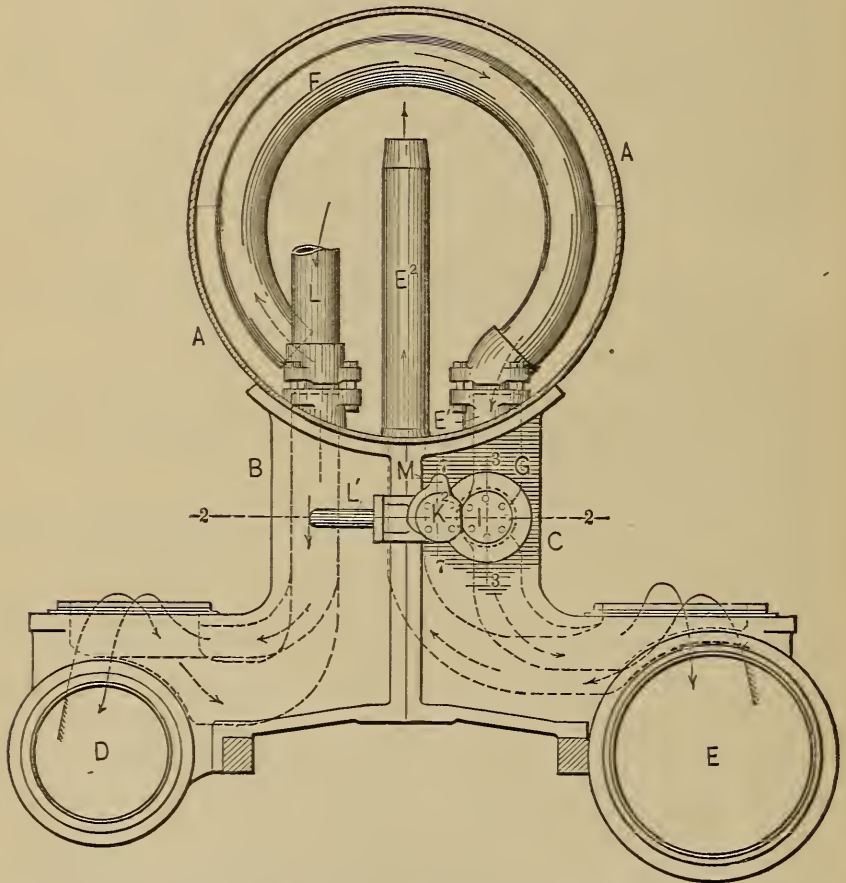
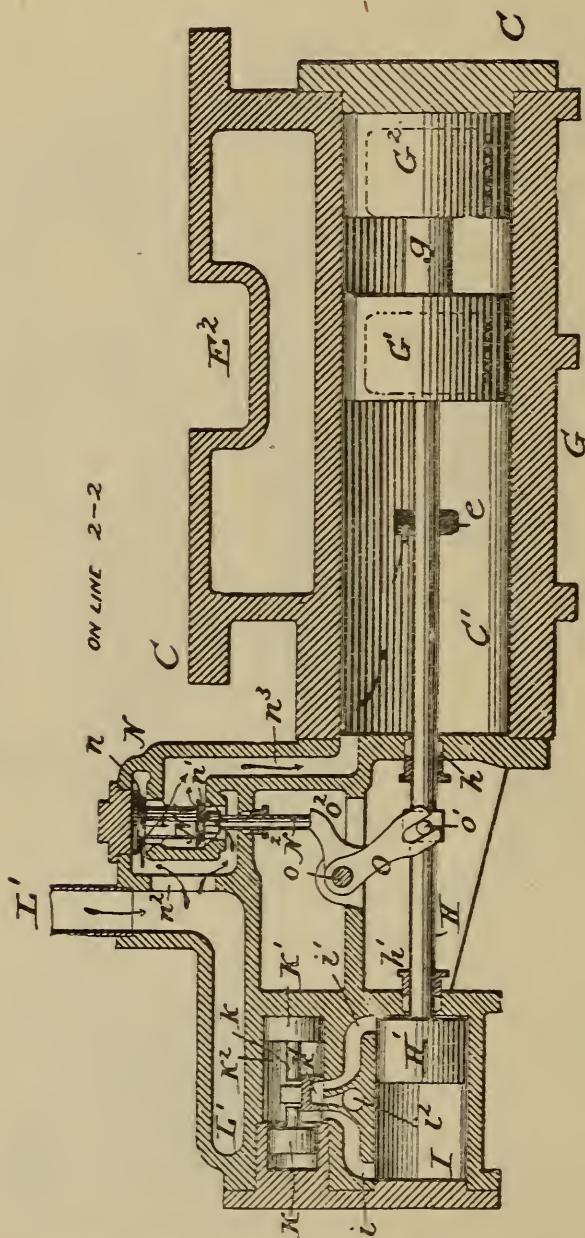

Fig. 161. Front Elevation (partly in Vertical Cross Section) Schenectady Compound.
Fig. 163. Schenectady Compound, Working both Cylinders with Live Steam (see page 281).
A. Figure 161, page 274, shows a front elevation, partly in vertical cross section, showing the cylinders, their saddles, the smoke-box, the reservoir, intercepting-valve and steam-passages; figure 162 is a horizontal cross section through the intercepting-valve and other valves relating thereto on the line 2, 2 of figures 161 and 164, showing the relation of parts when the intercepting-valve is open. Figure 163 shows a similar view of some of the same parts in the position which they take when the intercepting-valve is closed. Figure 164 shows a vertical lengthwise section through the intercepting-valve on the line 4, 4 of figure 162, with the valve open; this
figure being also a section on the line 3, 3 of figure 161. Figure 165 is a vertical cross section through the regulating and intercepting valve-working division
the regulating division on the line 7, 7 of figures 161, 165 and 166; figure 168, a vertical cross section
of the steam; the short unfeathered darts in figure 162 show the movements of the regulating-valve and the actuating-piston of the intercepting-valve. Figure 161 shows a smoke-box *A* on saddles *B*, *C* connected respectively with a high-pressure cylinder *D* and a low-pressure cylinder *E*, on opposite sides of the engines and having suitable pistons and induction and eduction-ports (not shown). The exhaust-port of the high-pressure cylinder is connected by a pipe *D* (shown in dotted lines in figure 161, and in full lines in figure 164), with a reservoir *F*, the other end of which connects with the inlet-pipe *E* of the low-pressure cylinder, in which the intercepting-valve *G* is placed, and across which it reciprocates to open or close this passage. The intercepting-valve and the apparatus which belong to it are
A. The throttle-valve is opened, permitting live steam to pass through the branch-pipe L^1 and port l , and the auxiliary or regulating-chamber M , the valve m of which it forces to the right (see figure 167), so as to open the port j and let steam pass into the valve-chamber K^2 , between its pistons $K K$. The right-hand one K^1 of these pistons being larger than the other, the steam pressure forces them to the right from the position shown in figure 162, to that shown in figure 163. This causes the slide-valve K^1 to uncover the ports i of the cylinder I , which in turn forces the piston H^1 to the right, closing the